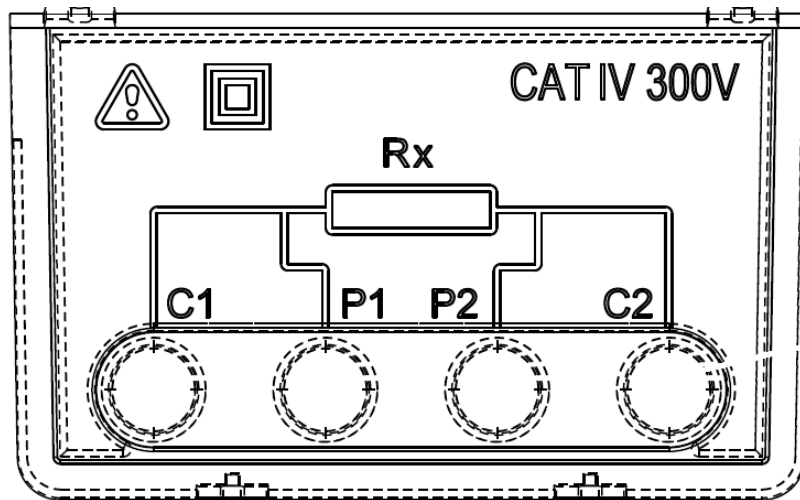

Figure 3.2: Test leads connector
- Four banana safety sockets, for connection of test leads (Figure 3.2),